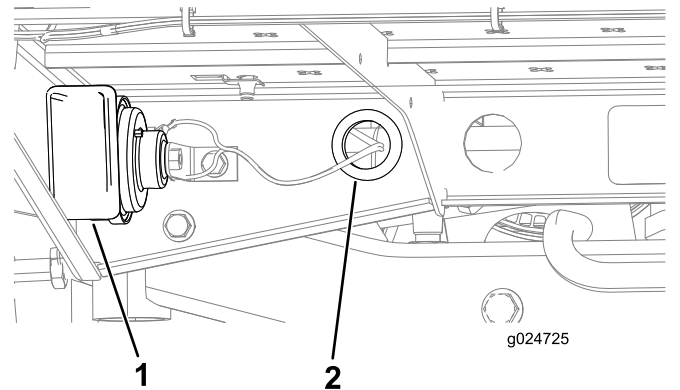

Figure 9
3. Route the wire harness through the grommet at the hole in the rear-angle platform to the horn (Figure 9).